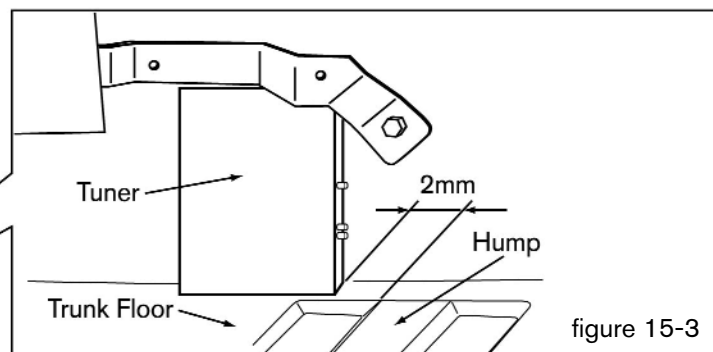

figure 15-3
11. Ensure tuner is mounted 2mm towards RHS from floor hump to prevent vibration noise. figure 15-3